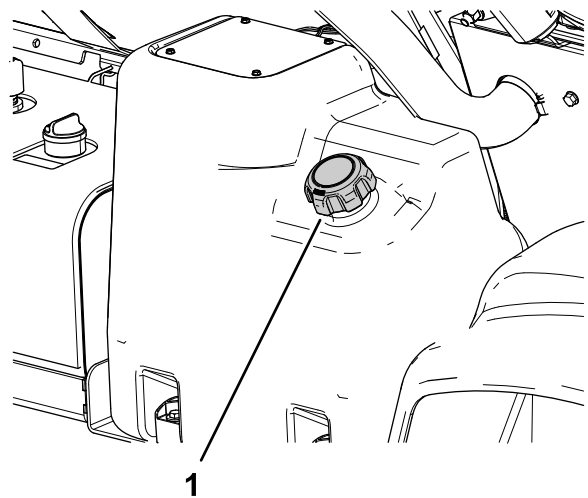

Figure 24
2. Clean the area around the fuel-tank cap (Figure 24).